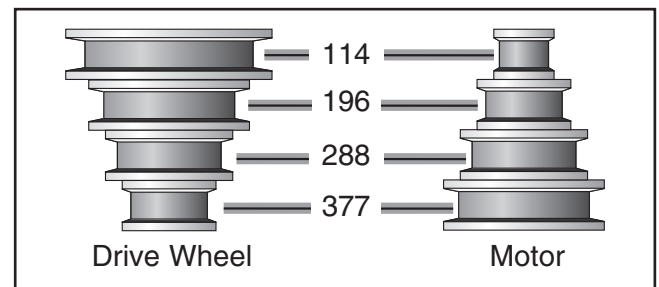

Figure 28. V-belt positions in FPM.
4. Move V-belt to desired pulley combination (see **Figure 28**).